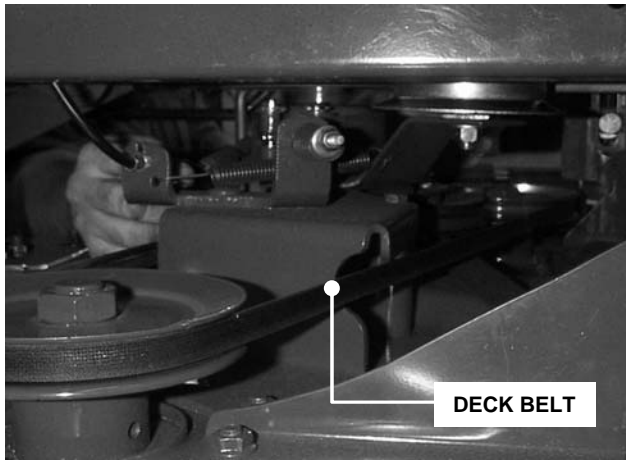

FIGURE 3.6
2. Visually inspect belt for signs of deterioration. Replace belt if worn or damaged. Refer to Section "DECK BELT REPLACEMENT". See Figure 3.6.